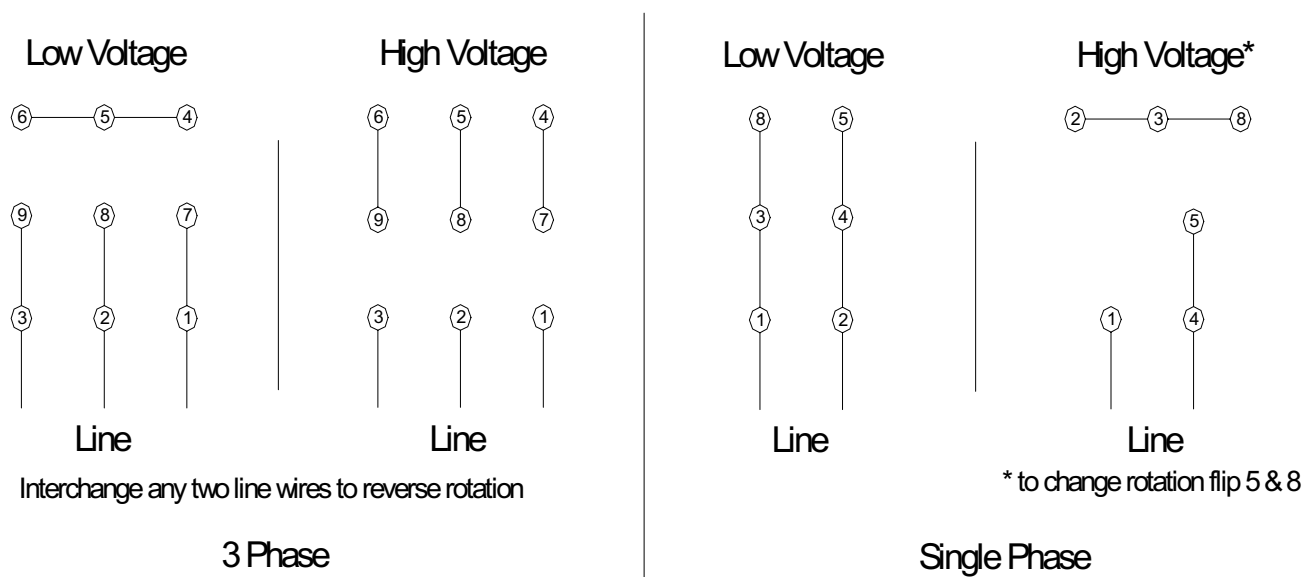

Figure 2 Wire Connection Diagram
4. Verify proper rotation of the blower motor. It will be necessary to view the blower wheel from the blower exhaust on the SM series unit to verify the rotation. Proper rotation is marked on the motor housing. The blower wheel should be rotating clockwise when viewed from the motor end of the wheel. Counterclockwise from the blower inlet cone side of the wheel. If opposite rotation is experienced, see Figure 2 for directions to switch rotation.